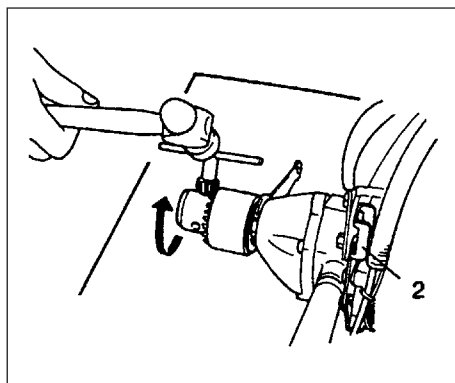

Fig. 2-6B
- To loosen the chuck, set the spanner on the other side and hit the chuck handle from this side to screw out (counter-clockwise), the chuck with the lock lever on. (TED-270PFL/270PFLS/270PFDH/270PFDLS/270PFHS) (Fig. 2-6B)